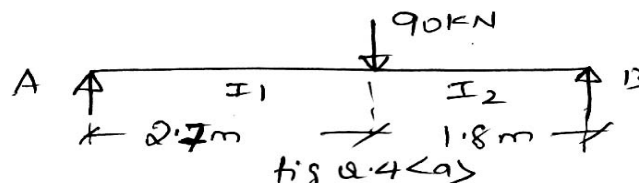

Fig Q.4(a)
- 4 a. Find the deflection of the beam shown in Fig Q. 4(a) under the point load. 10